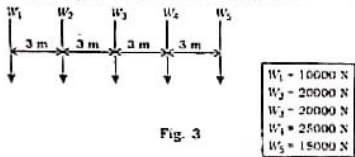

Fig. 3
5. The load system shown in Fig 3 crosses a beam simply supported over a span of 24 m. Using influence line, calculate maximum Bending Moment under 25000 N load